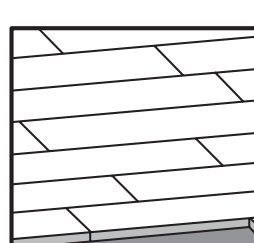

FIGURE 1.1 (CORRECT)
**STEP 9:** Avoid what our industry calls "clusters" by staggering the end joints by at least twice the plank's width. Example: using a 3 1/4" wide plank would put the next row's end joint no closer than 6 1/2". It will be impossible with some width do that. In this case, match the overall look. If available, the use of a Brad nailer is ideal to speed up the above face and blind nailing procedure. Ensure that there is a nail approximately 1-2" away from both ends of the board. Refer to figure 1.1 and 1.2